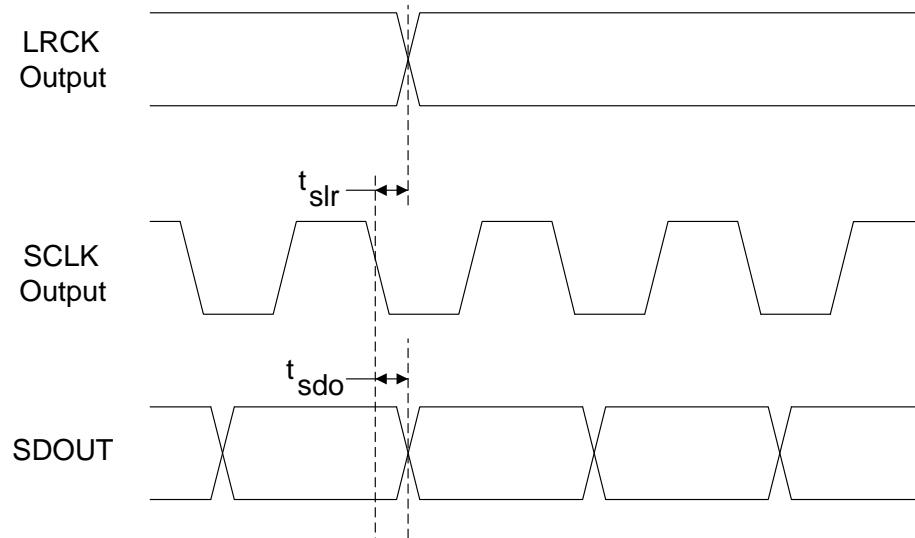
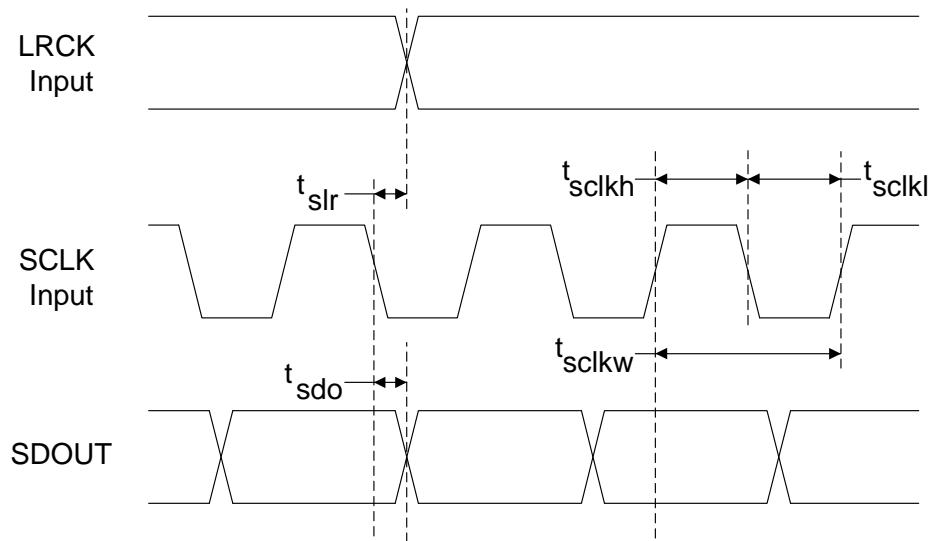

Figure 1. Master Mode Serial Audio Port Timing
Figure 2. Slave Mode Serial Audio Port Timing
18. See Figure 1 and Figure 2 on page 18.